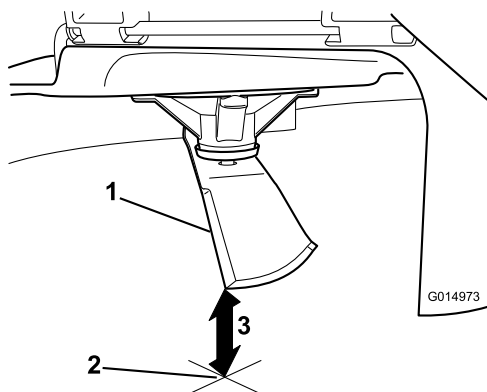

Figure 69
5. Measure from the tip of the blade to the flat surface (Figure 69).